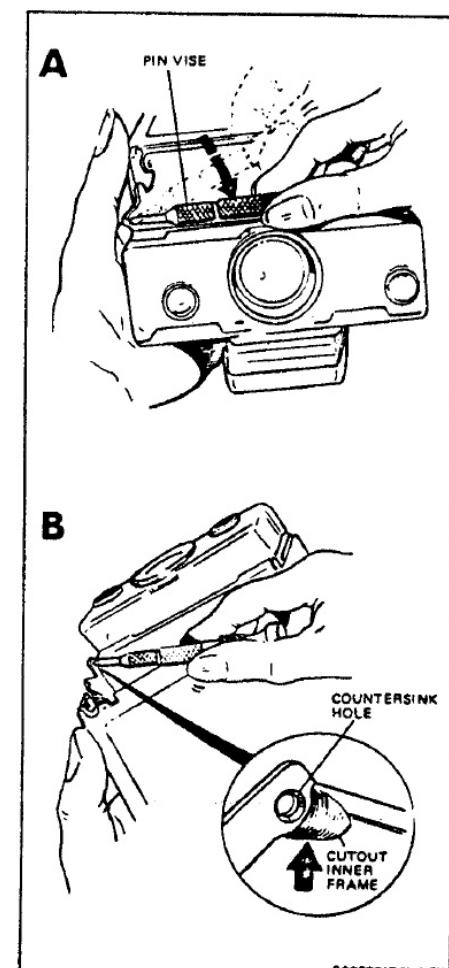

FIGURE 4-58 RIVETING THE SHUTTER HINGE BRACKET
- With a #1 center drill held in a hand pin vise, cut away a clearance area on the inner frame to provide enough room for the rivet installation (see Figure 4-58 "A"). Use extra care when start-
ing to cut into the plastic since excess force could break the bond between the inner frame and the bottom plate assembly. Start cutting with the tool held at an angle as shown in Figure 4-58 "A". When the cutout is well started, lower the angle of the drill to complete cutting the inner frame. When done it should look like the inset in Figure 4-58 "B".)
- f. Also using the #1 center drill, countersink the hole in the bottom plate assembly as shown in Figure 4-58 "B".
33. Refer to Figure 4-58. Install the three machine screws and the self-tapping screw to secure the gear-train assembly (see "Repairs/Adjustments").